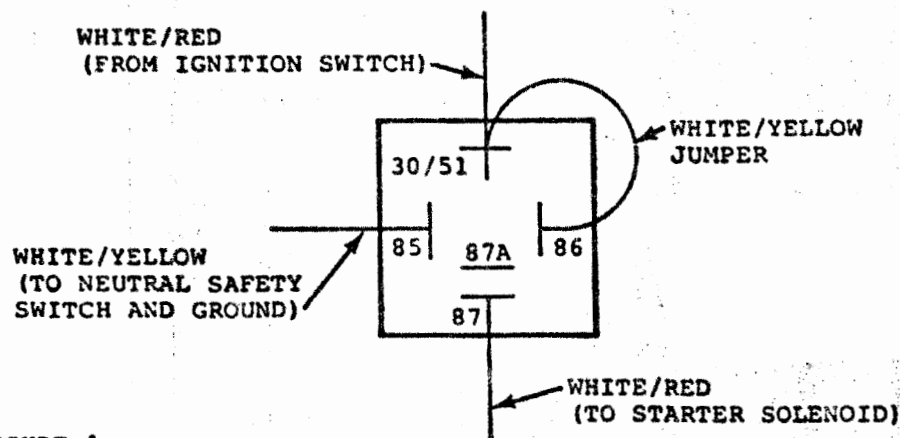

FIGURE 1
3. Disconnect the white/yellow pigtail jumper wire from its relay terminal (#86). Cut and move the jumper from its white/red wire connector (Figure 1).